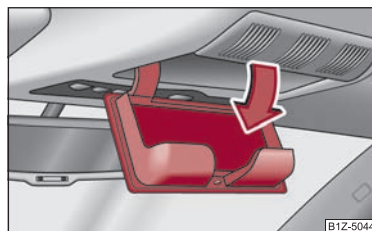

Fig. 94 Detail of the headliner: Stowage compartment for spectacles
- Press on the lid of the stowage compartment, the stowage compartment opens downwards ⇒ fig. 94.